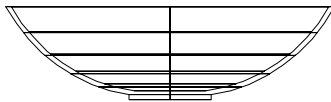

Fig. 15.19 Second example
1. Construct a solid of revolution in the shape of a bowl in the **3D Views/Front** view (Fig. 15.19).